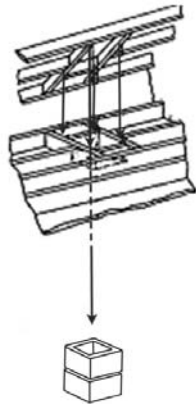

Figure 21. Roof Penetration
F. Measure to all sides of the nail and mark the required opening, and then cut a hole in the roof. Remember that the hole is measured on the horizontal, and then projected to the roof. The hole may then be larger, depending on the pitch of the roof. See Figure 21.
E. Measure to all sides of the nail and mark the required opening, and then cut a hole in the roof. Remember that the hole is measured on the horizontal, and then projected to the roof. The hole may then be larger, depending on the pitch of the roof. See Figure 21.